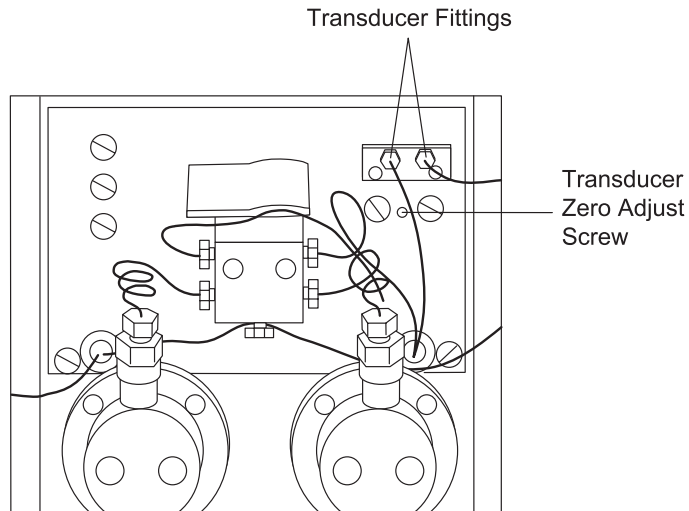

Figure 4-2 Transducer Fittings and Zero Adjust Screw
This section provides an overview of the 600E pump. Figure 4-2 illustrates the various pump assemblies, which are described in Table 4-1.
5. On the screen, set flow rate to 0.0 mL/min. Verify that flow rate is approximately 0.0 mL/min. If necessary, use the transducer zero adjust screw on the front of the pump (Figure 4-2) to adjust the pressure until the display on the screen reads zero.
3. Disconnect the transducer fittings on the front panel (see Figure 4-2).